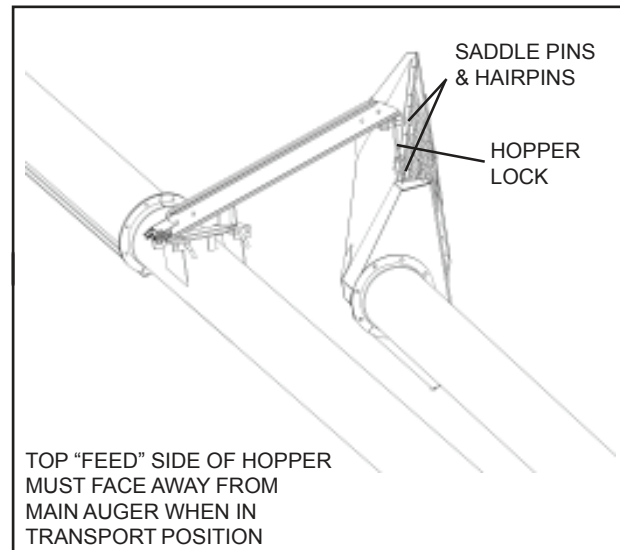

Figure 2
3. Install hopper liftarm as you would normally, complete with MK100-36 hopper lock (see Figure 2).
4. To place hopper into transport, attach cable hook to the handle on the side of the hopper, then fully raise hopper with intake side facing away from the main auger as shown. Secure hopper lift arm with the hopper lock and the saddle pins and hairpins provided (see Figure 2).
**NOTE:** To change side of intake feed hopper operation raise auger hitch with jack and disconnect tractor. Swing intake feed hopper to opposite side of auger. Reverse the position of the hopper lift arm assembly and move the winch to the other side of the boot (opposite intake feed hopper, see Figure 2). Reconnect to tractor.